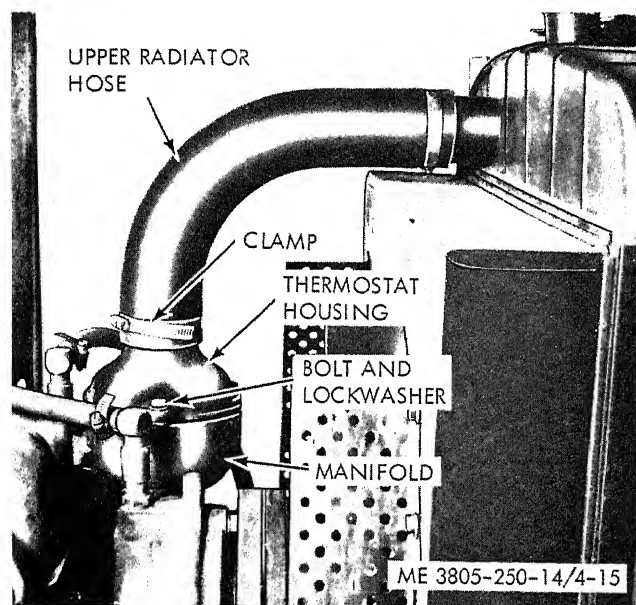

Figure 4-15. Thermostats, removal and installation.
*b. Removal* (fig. 4-15).
(1) Drain the cooling system.
(2) Disconnect the clamp securing the upper radiator hose to the thermostat housing.
(3) Remove three bolts and lockwashers securing the housing to the manifold. Discard the attaching gasket. Remove the two thermostats from the manifold.